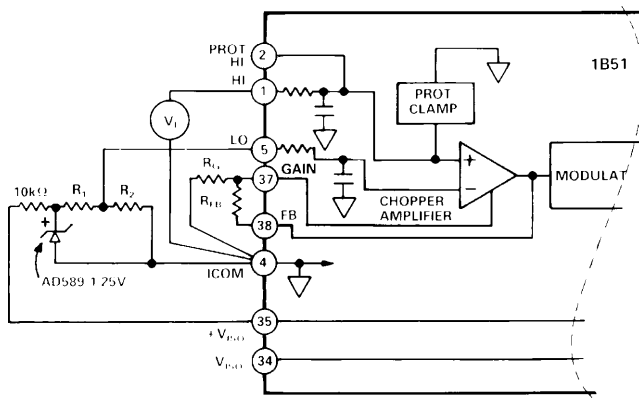

Figure 1. Input Gain Setting and Zero Suppression
The gain of the 1B51 is controlled on the input side by a pair of user provided resistors (see Figure 1). A feedback resistor of between 10 k $\Omega$  and 20 k $\Omega$  is required between the feedback pin (FB) and the gain pin. The gain setting resistor is connected between the gain pin and input side common (ICOM). The gain equation is
Since the 1B51 is a differential input device, true input referred zero suppression can be accomplished (see Figure 1). A voltage reference powered by the input side power supplies is applied to the LO terminal. Since the transfer function is